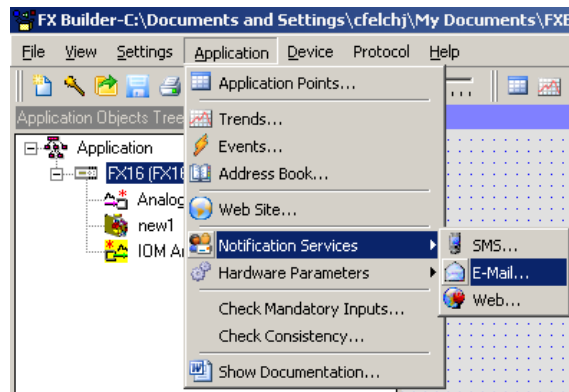
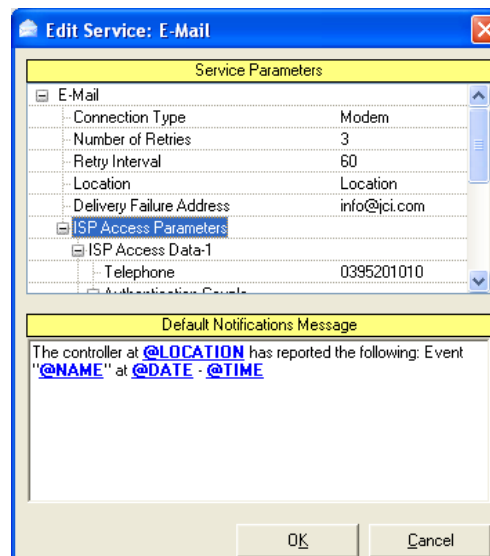

Figure 213: Accessing the E-Mail Service Parameters
Figure 214: Editing E-Mail Service Parameters
1. Right-click the Application menu item and select Notification Services and then E-Mail (Figure 213). The Edit Service: E-Mail window appears (Figure 214).